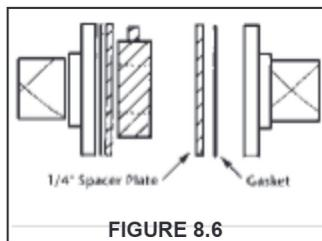

FIGURE 8.6
- 2) For lug and wafer valves that are lined or have integral seals, use a $\frac{1}{4}$ " steel spacer plate with an I.D. equal to Schedule 40 steel or as required by the valve manufacturer. (See Fig. 8.6)